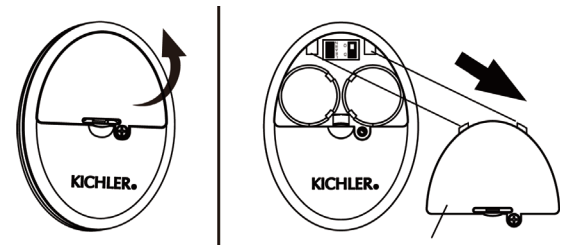

Fig. 29
Otherwise the remote control will not work. To perform this process manually, follow steps below: After installing and wiring the unit, restore power to your fan, press and hold the “LEARN” key for 1-3 seconds, and the fan will turn on at medium speed and light (if installed) will turn on. This confirms that the learning process has been completed. This operation must be completed within 30 seconds after restoring power to the fan. (Fig. 29)
**NOTE:** Ensure slide switch in battery compartment marked “D O” is set to “D” position. (Fig. 29)
**Step 4.** Replace the battery cover and tighten with screwdriver. (Fig. 29)